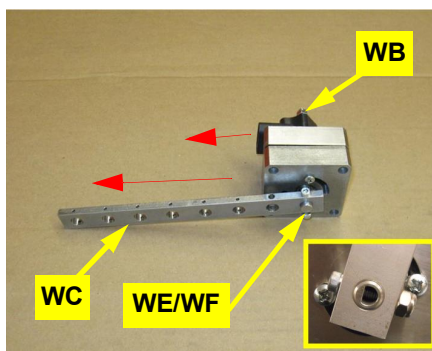

Figure 1c: Attached WAS arm
- c. Attach WAS arm **WC** to the WAS assembly using the provided hardware **WE** (nut) and **WF** (screw). Mount **WC** in the same direction as **WB**'s wire connector (Figure 1c).